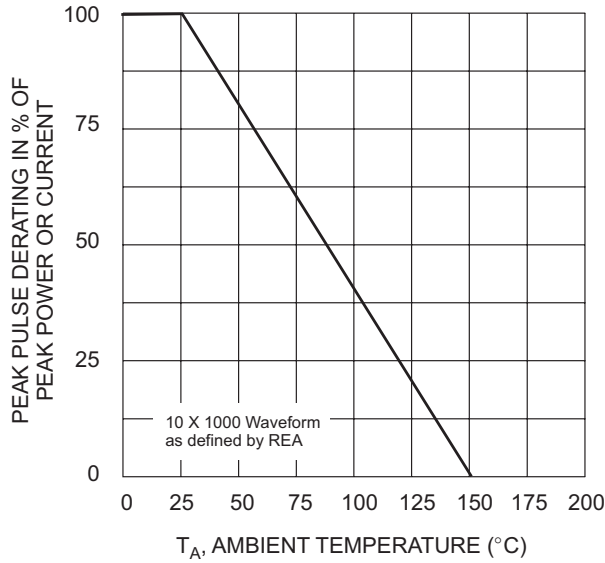
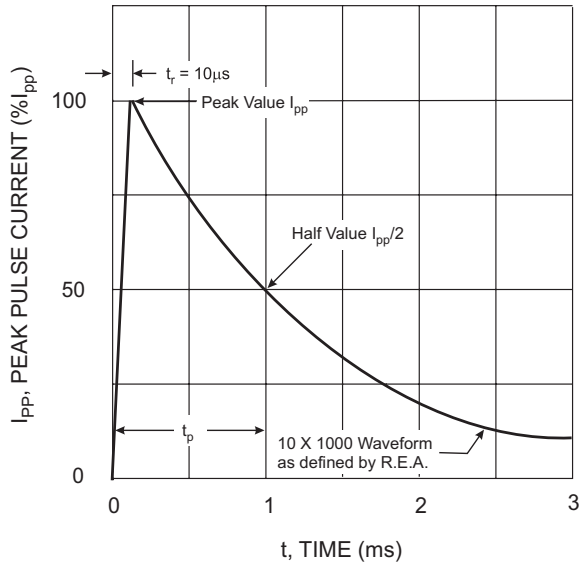

Fig. 1 Pulse Derating Curve
Fig. 3 Pulse Waveform
1. Non-Repetitive current pulse as shown in figure 3 and derated above T_A = 25°C as per figure 1.
2. Non-Repetitive current pulse as shown in figure 5 and derated above T_A = 25°C as per figure 1.